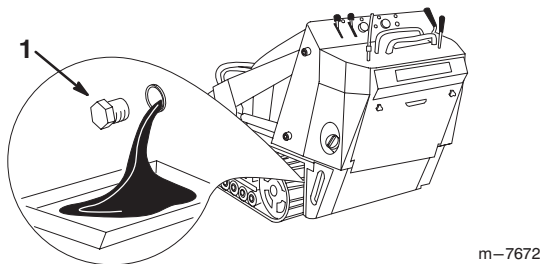

Figure 33
4. Remove the drain plug (Fig. 33).